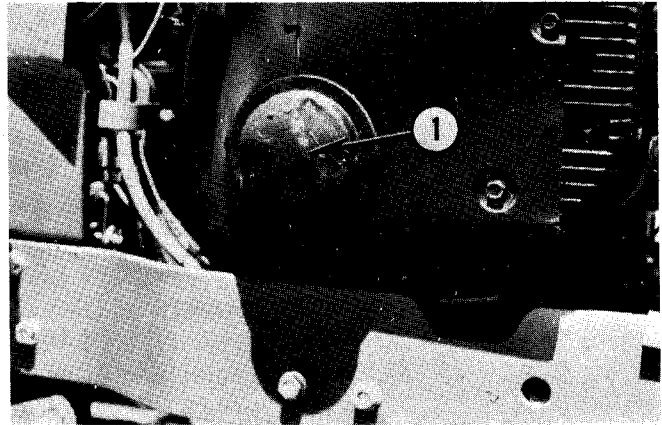

Fig. 17 — Engine Lubrication
NOTE: After 10 hours of operation, remove and replace oil filter, Fig. 17 and Page 16, on bottom of transmission. Refill with oil as recommended in "Lubrication" Section, Page 15.
2. Unscrew and remove filter, Fig. 17.